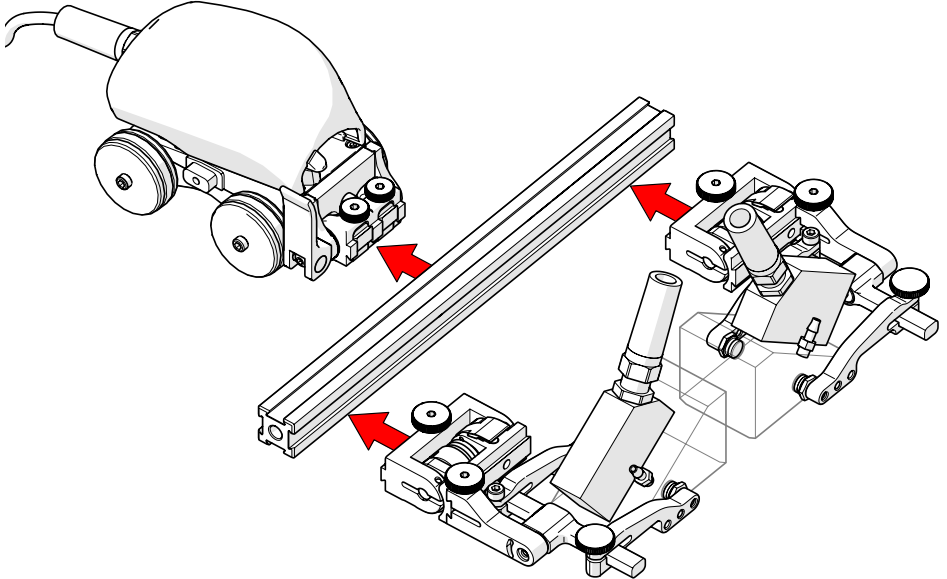

Fig. 94 - Assemble configuration
1. Assemble the appropriate configuration to the cart (Fig. 94). Install the wedge and probes that will be used (see *Slip Joint Probe Holder* on page 11).